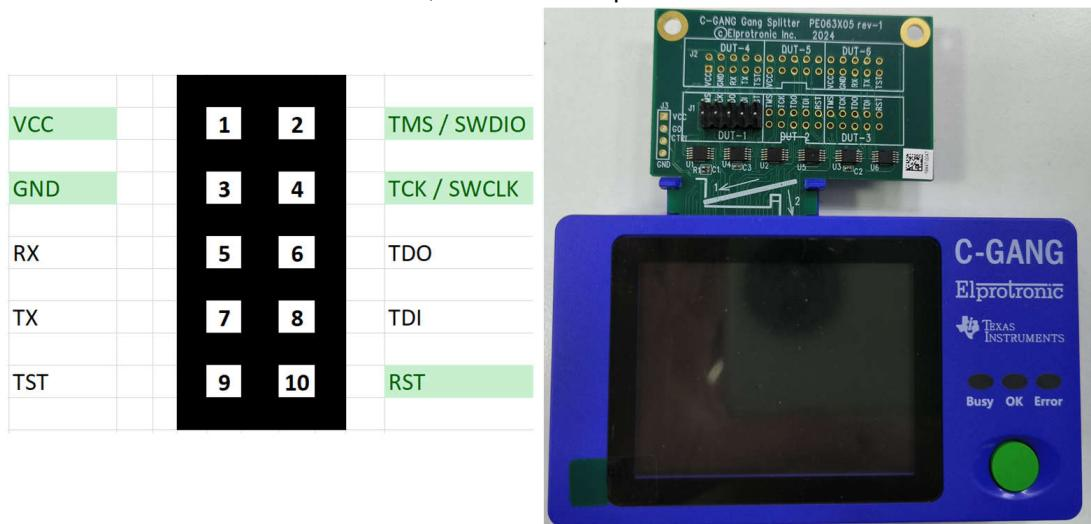

Figure 5-6. C-Gang Pin Assignment
2. Finish connection between C-GANG and the connector board, as shown in Figure 5-6. Finish the pin connection between MSPM0 and C-GANG. The least used pins are VCC, GND, SWDIO, SWCLK. If users want to use *Clear Locked Device* function, then the reset pin is also needed.